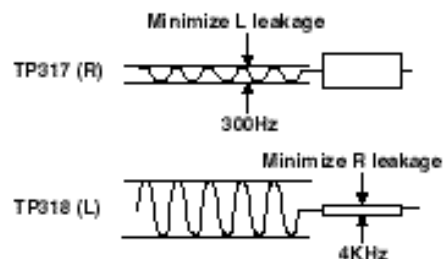

Figure 8. Separation Adjustments
28. Adjust the + or – key for minimum low frequencies at TP317. (See Figure 8.)
31. Adjust the + or – key for minimum high frequencies at TP318. (See Figure 8.)